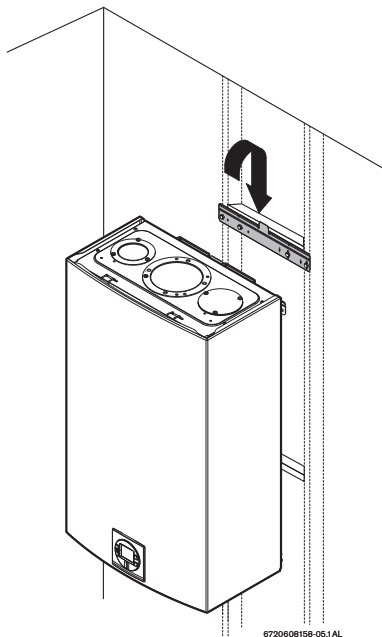

Fig. 26 Mounting the heater
- ▶ Hang the appliance on the bracket, see Fig. 26.